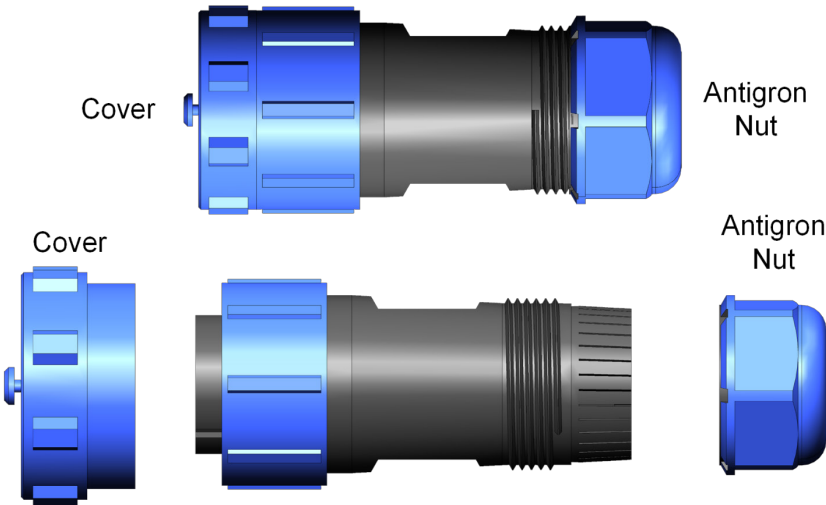

Figure 6: Connector Disassembled
2. Remove the antigron nut and the cover from the connector (Figure 6).